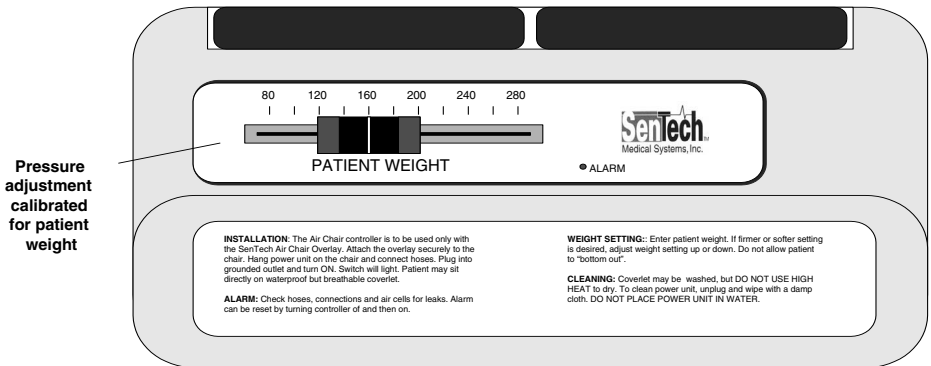

Figure 1
2. Select patient's weight using slide control on top of the electronic controller (See **Figure 1** below). If more pressure is desired, move the slide control to the higher weight setting. If less pressure is desired, move the slide control to the lower weight setting.